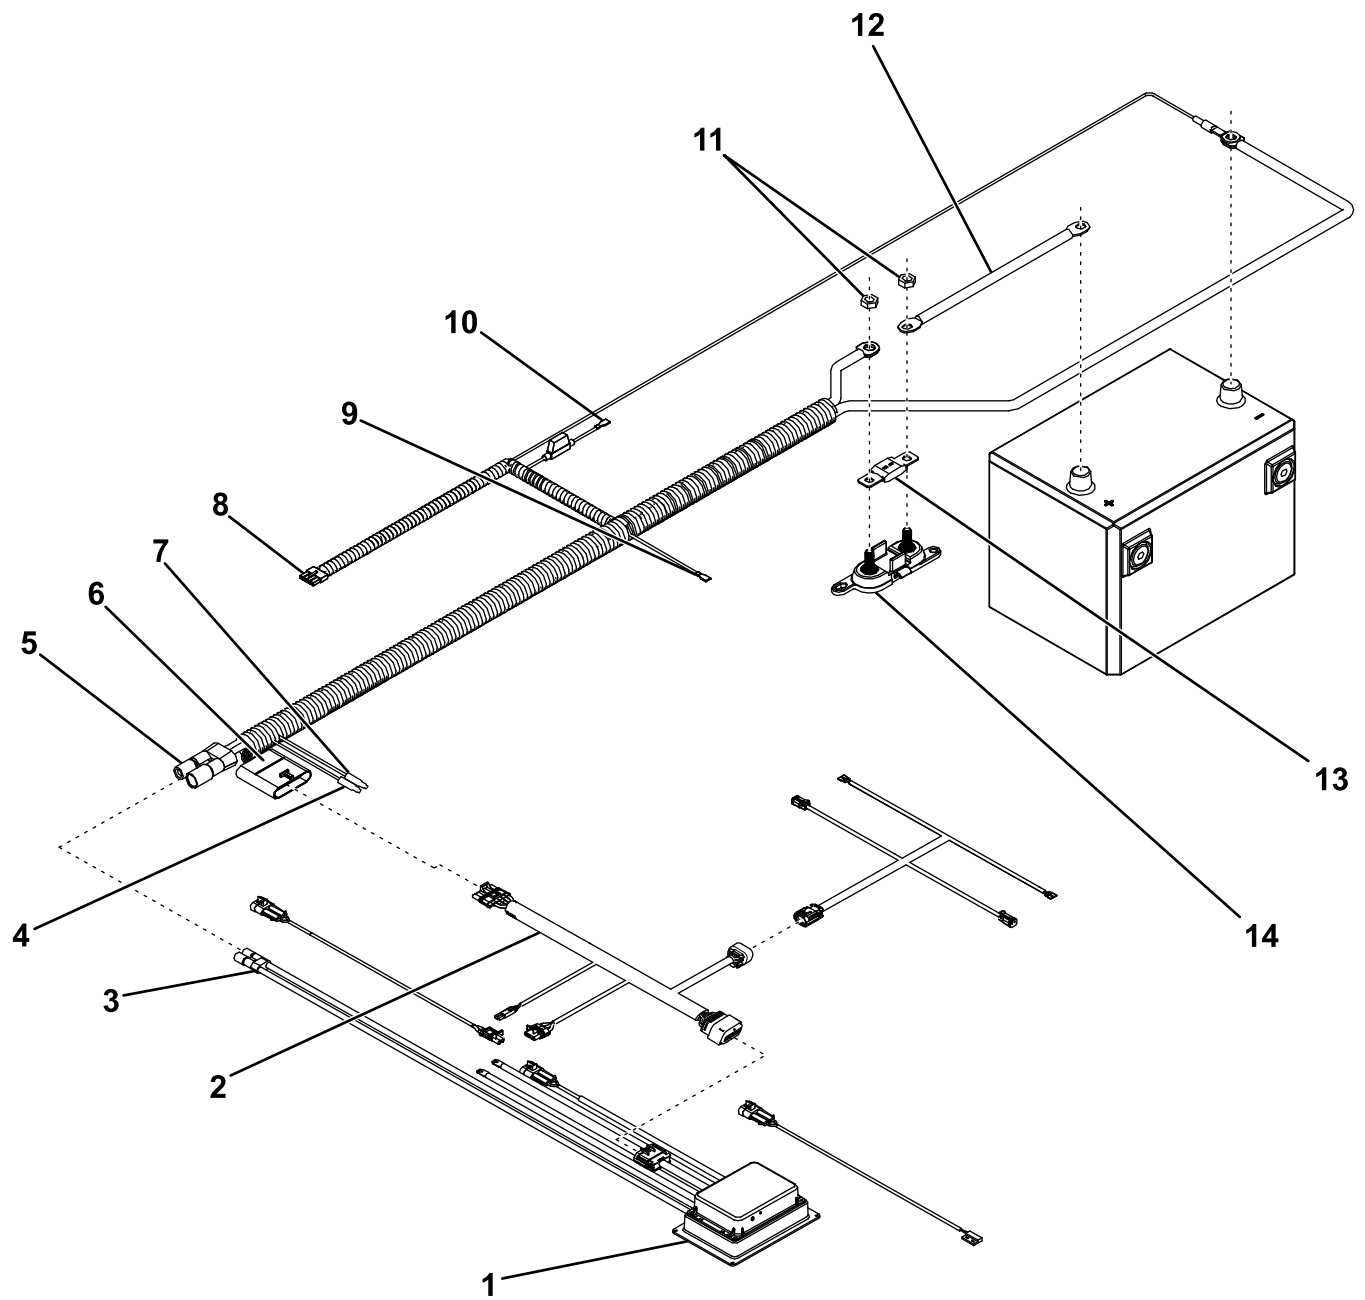

Figure 3
1. Secure the vehicle-side power/ground and main harness connectors near the center of the rear bumper using cable ties (Figure 3).
5. Connect the red power/ground cable to the fuse block (Figure 3).
6. Connect the power cable to the other end of the fuse block (Figure 3).
8. Connect the power cable to the positive (+) battery post (Figure 3).
9. Connect the red spade connector with the inline fuse to a keyed fuse source on the vehicle (Figure 3).
10. Connect the red spade connector without the inline fuse to the center high-mounted, stoplight fuse if it is available (Figure 3).
11. Connect the white bullet connector to the rear tail-light ground wire using a quick-splice connector (Figure 3).
12. Connect the brown bullet connector to the rear running-lamp wire using a quick-splice connector (Figure 3).
14. Connect the black power/ground cable and the controller ground cable to the negative (-) battery post (Figure 3).